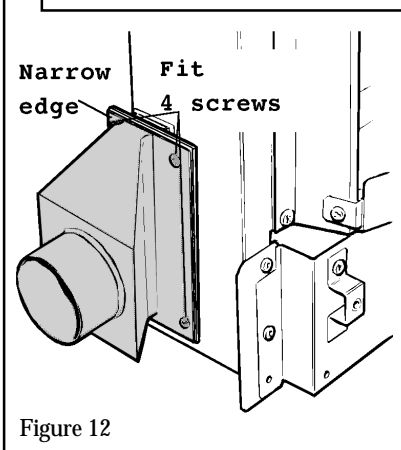

Figure 12
6.7 Fit the flue duct connector to the open side of the convection box with four tapping screws. The narrow edge of the connecting plate must be at the back (see figure 12).